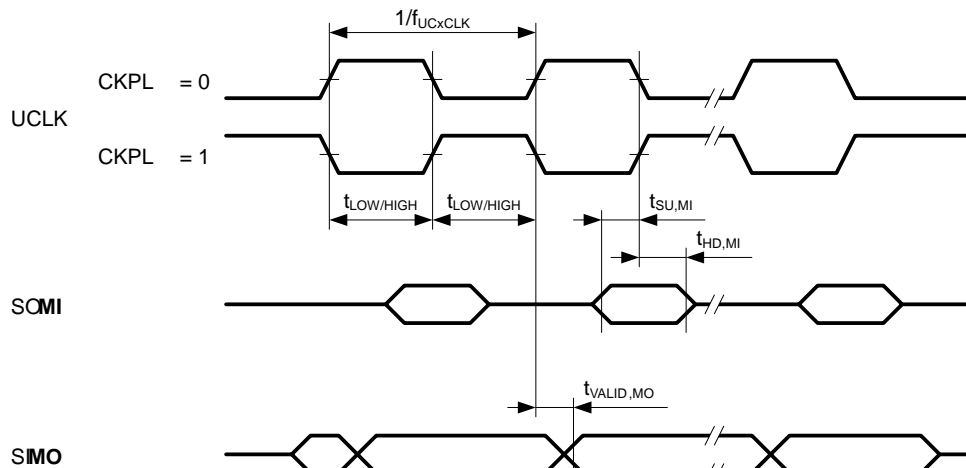

Figure 18. SPI Master Mode, CKPH = 0
**USCI (SPI master mode) (see Figure 18 and Figure 19)**